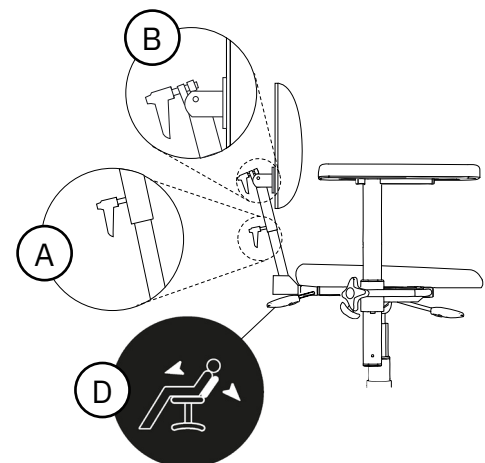

Figure 5.43. Comfort backrest mechanism.
Standard can be adjusted in height (A), angle of back rest (B) and has a gas spring-operated back rest mechanism (C), see Figure 5.43. The gas spring-controlled back recliner can be adjusted with the lever under the seat (standard) or the lever under the armrest (optional). The back recliner can be adjusted in the range of 3° forwards to 40° backwards.